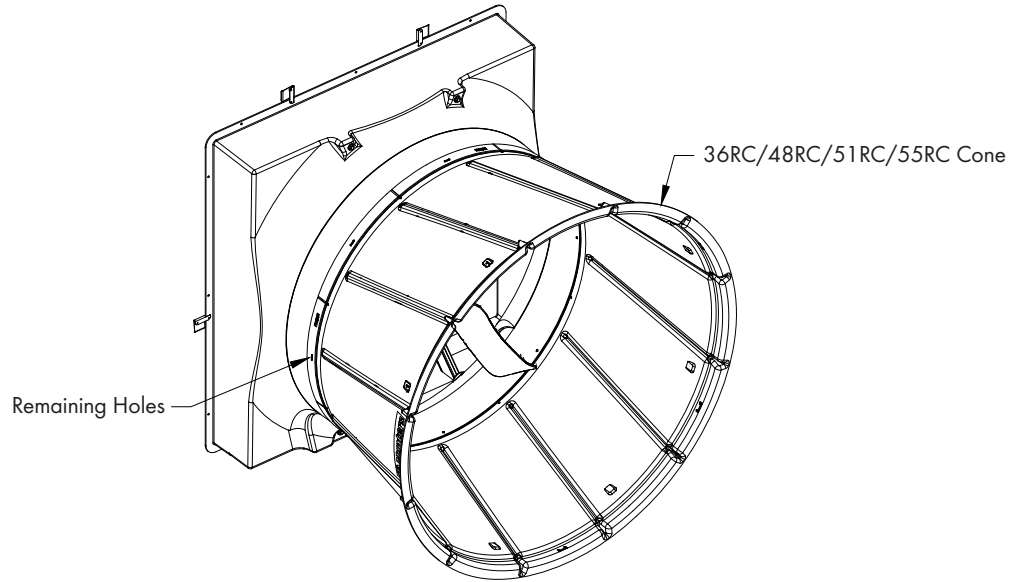

Figure 3
Work down the sides of the cone, sliding the cone tabs onto the fan until the bottom tab is in place. Keep pressure on the cone to make sure tabs stay on the fan. Install (6) Truss Head Bolts [A], Washers [B] and Flange Nuts [C] in the remaining holes in the fan outlet and slots in the cone to finish securing cone to fan. See Figure 2B and Figure 3. Tighten all nuts at this time, making sure not to over tighten.